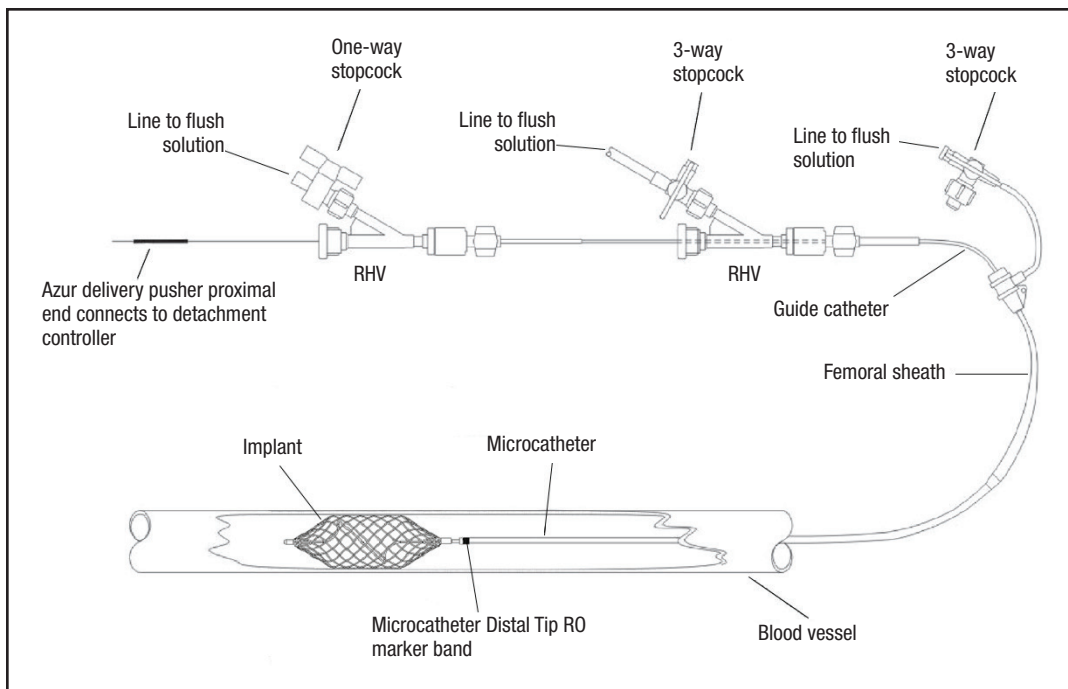

Figure 1 – Diagram of Azur System Setup
1. Refer to Figure 1 for the set-up diagram.